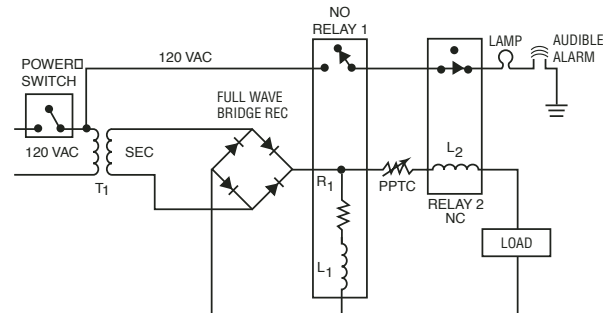

Figure 4
3. The third option for signaling is the use of the PPTC with a light and/or signaling device with the current switched from the load. This is accomplished by placing a normally open relay coil L_1 of the warning circuit in parallel with the load. A Multifuse PPTC is placed in series with the load between the load and the warning circuit relay coil L_1 . (See Figure 4.) Another normally closed relay coil L_2 is placed in series between the PPTC and load. When the circuit is powered on, L_1 will energize and close the contacts in relay R_1 . L_2 will energize and open the contacts of relay R_2 . In the event of an over circuit situation, the PPTC will trip and block current to the load and coil L_2 will de-energize closing the normally open contacts closed presenting a path for the 120V current flow to the warning system. In the event power is shut off at the transformer, coils L_1 and L_2 will de-energize causing the contacts of relay 1 to close and relay 2 to open isolating the warning circuit for a controlled shutdown of the system.